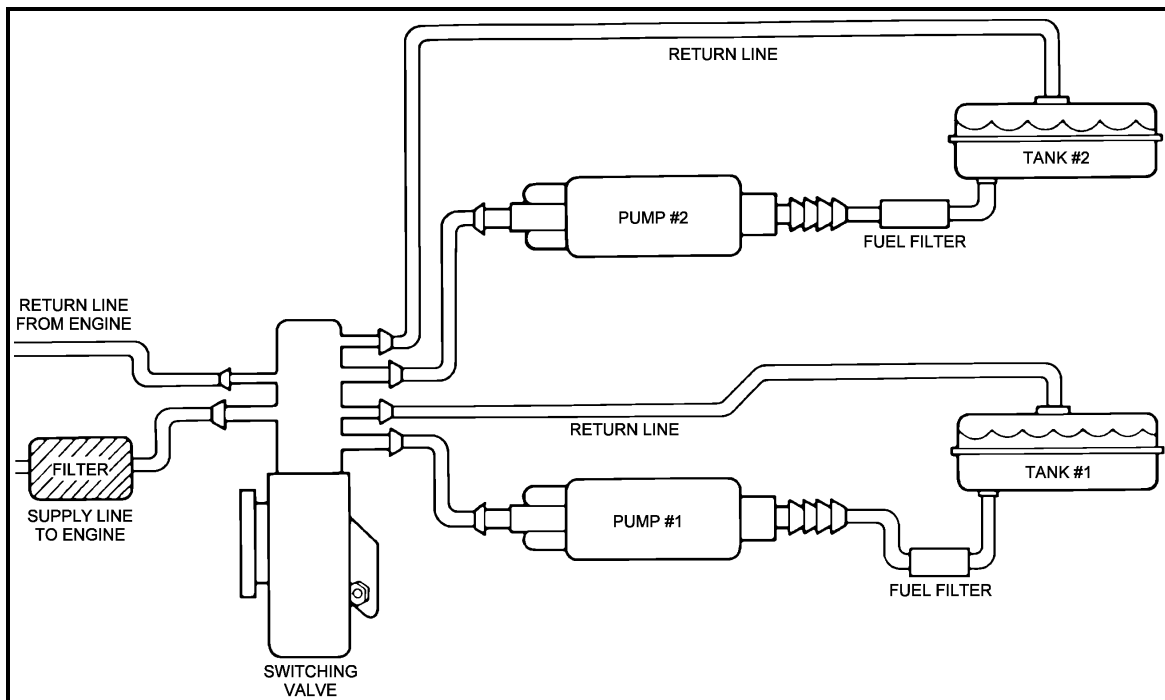

Figure 6
1. Mount the selection valve in a protected location close to the existing fuel lines and near the fuel tanks. Position the valve so the side with the four hose nipples points toward the fuel tanks. Mount the fuel pumps along the fuel supply lines and next to each fuel tank. Fuel filters (Holley Part Number 562-3) **MUST** be located between each tank and pump. Make sure pump inlets point toward the tanks. (See Figure 6).